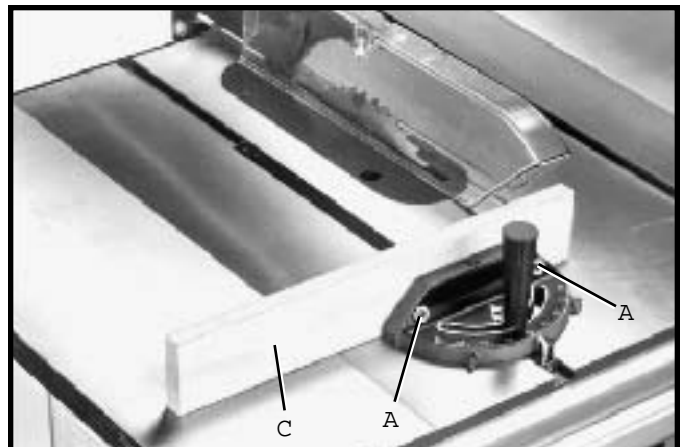

Fig. 103
For added safety and convenience the miter gage can be fitted with an auxiliary wood-facing (C), as shown in Fig. 103, that should be at least 1 inch higher than the maximum depth of cut, and should extend out 12 inches or more to one side or the other depending on which miter gage slot is being used. This auxiliary wood-facing (C) can be fastened to the front of the miter gage by using two wood screws (A) through the holes provided in the miter gage body and into the wood-facing.